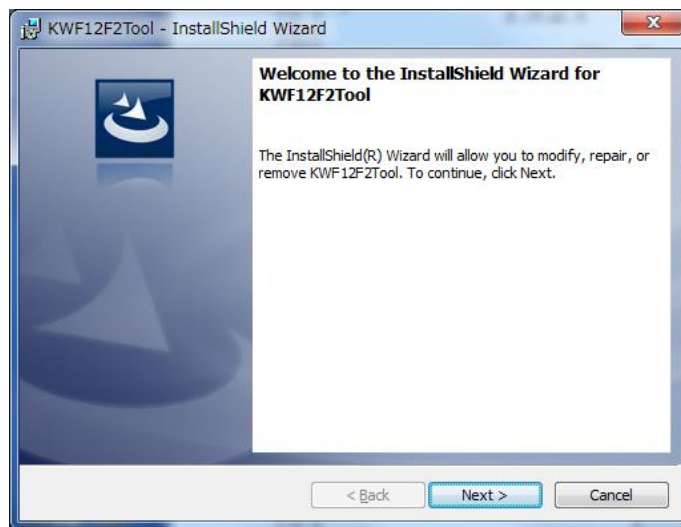

Fig 1.6 Welcome to the InstallShield Wizard
- (1) By executing the setup file (setupENG.exe) by using a personal computer in which KWF-12F2 Maintenance Tool has been installed, the screen of Fig. 1.6 appears.